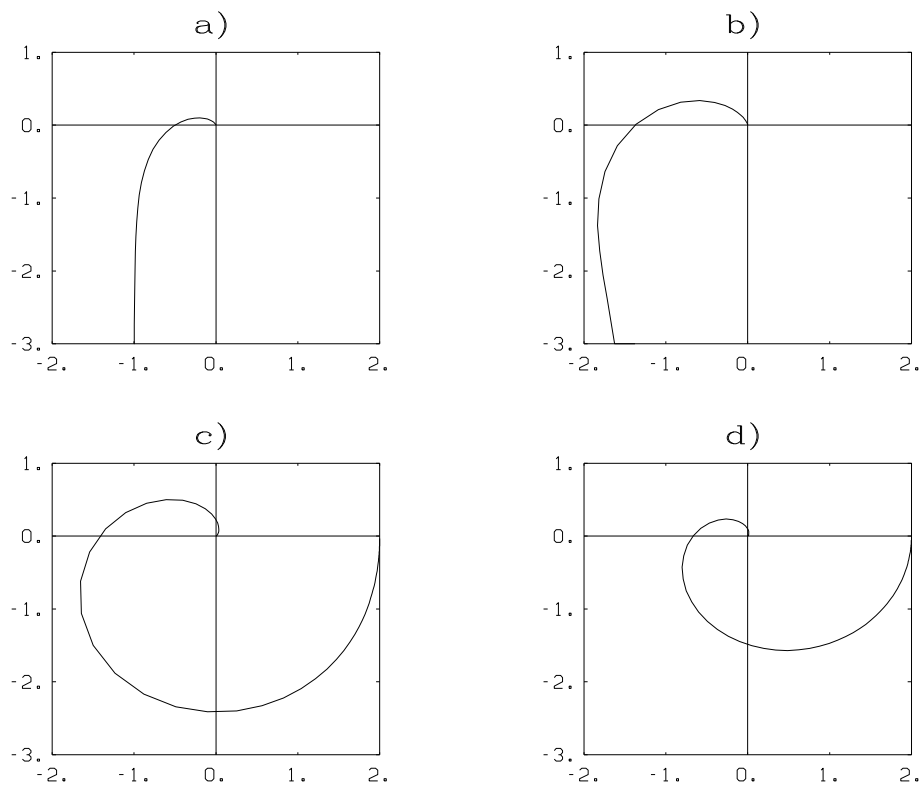

Figure 9.2 Nyquist curves in Problem 9.3.
9.3 Consider the Nyquist curves in figure 9.2. Assume that the corresponding systems are controlled by a P-controller